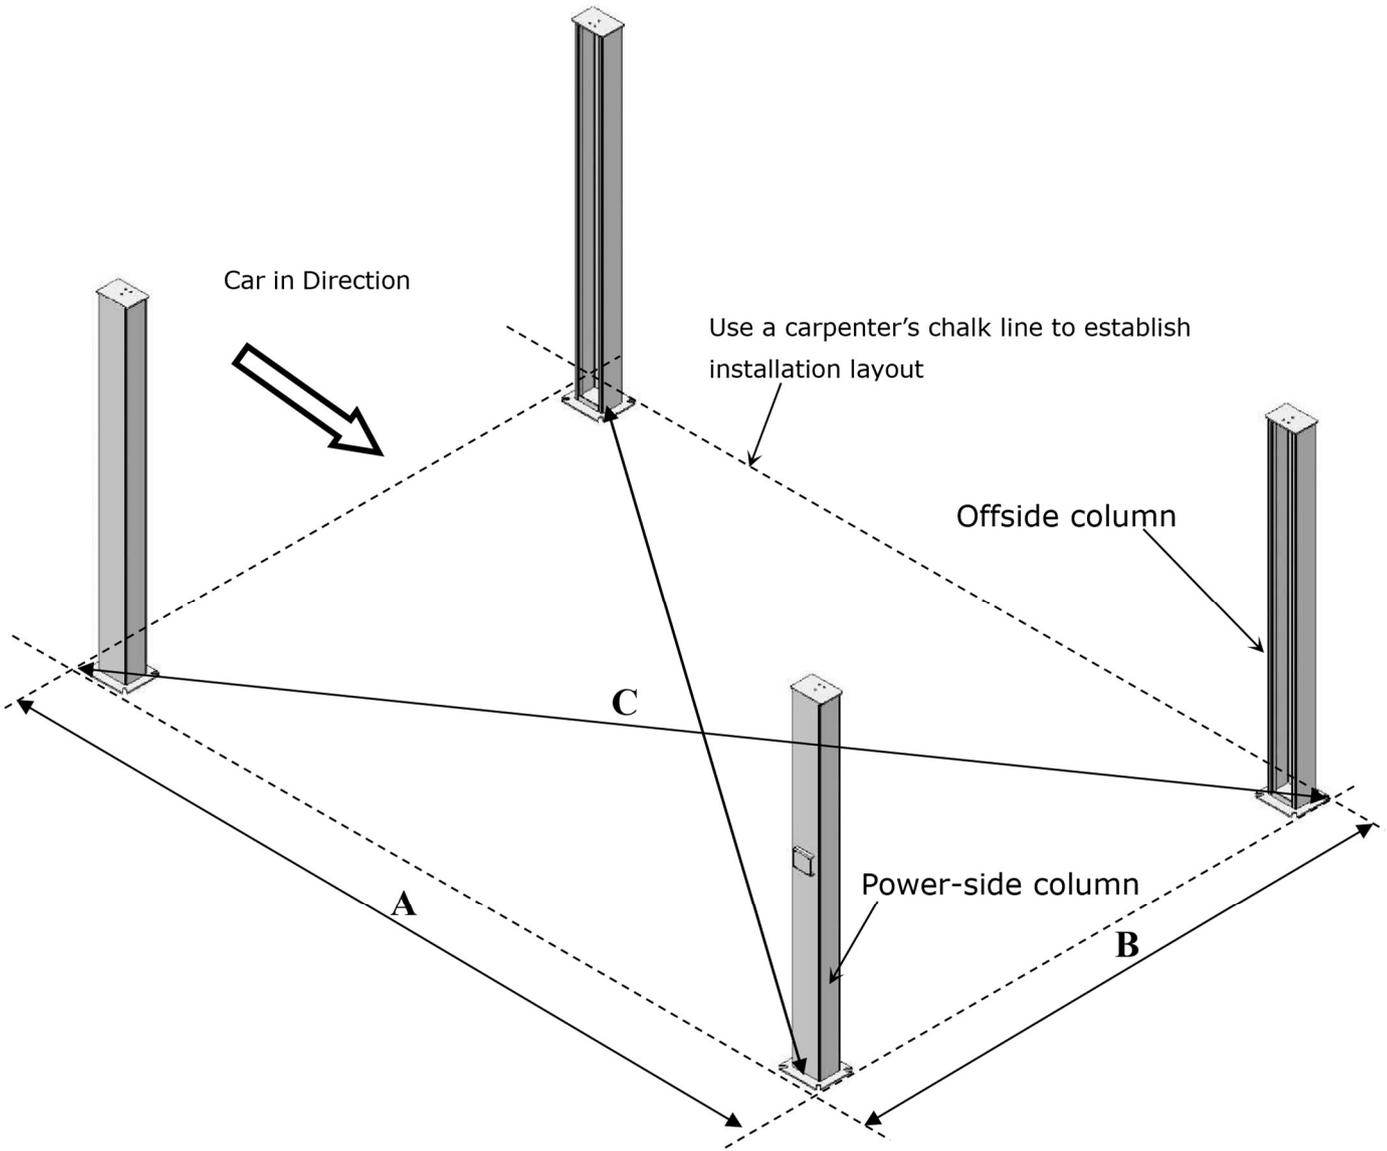

Fig. 12
C. Use a carpenter's chalk line to establish installation layout , make sure the size is right and base is flat (see Fig. 12).